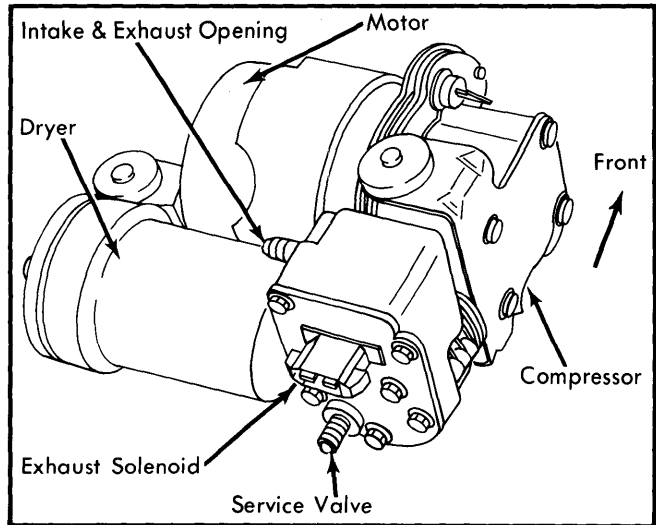

Fig. 1 Electronic Level Control Compressor
1) Disconnect wiring from compressor and exhaust solenoid terminals. See Fig. 1.